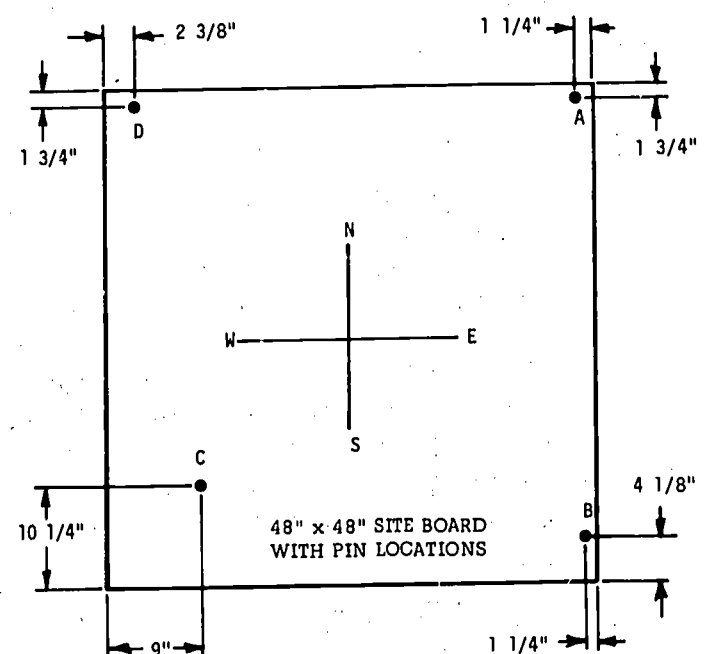

Fig. 12-2. Location of Site Marker Pins
5. When students finish, the brads (lot pins) should be located as shown in Fig. 12-2.